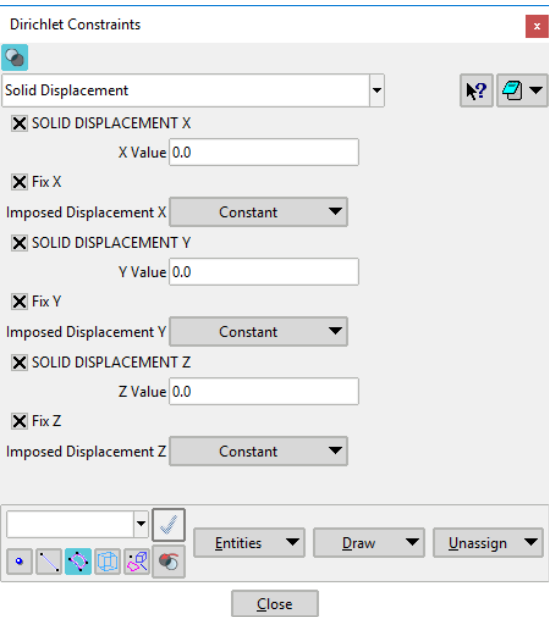

Figure 8.3: Dirichlet constraints window
- 7 The next step is setting the boundary conditions. In this tutorial, the side boundaries can move freely in vertical direction; the bottom boundary is fixed. In the top menu bar, select *GeoMechanicsApplication->Dirichlet Constraints*. The window as shown in Figure 8.3 should appear.